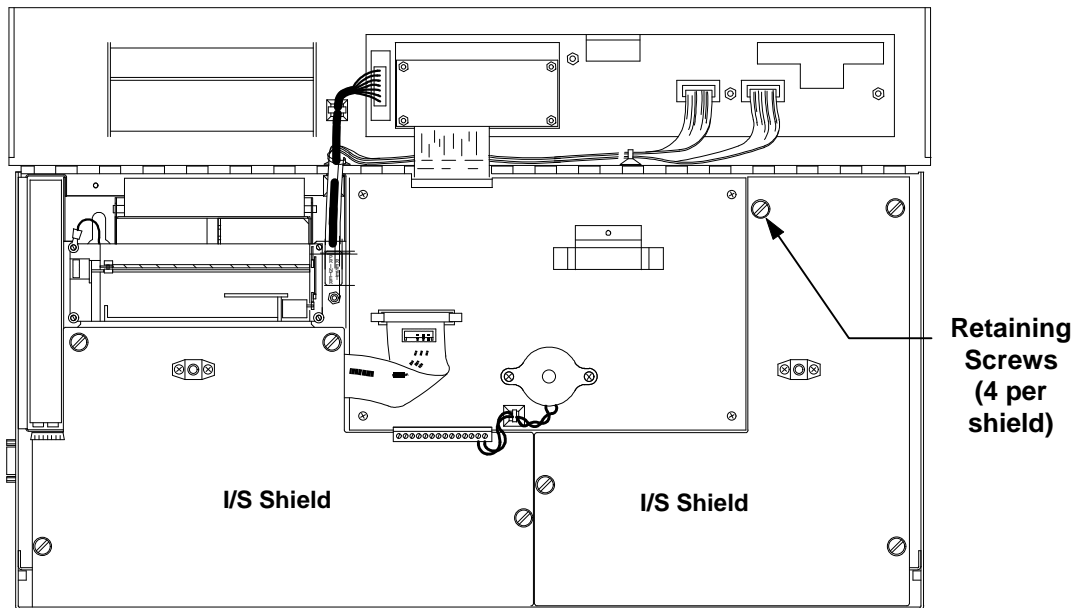

Figure 1 I/S Shield Removal
3. Loosen the retaining screws and remove the two intrinsic safety shields. Refer to *figure 1*.